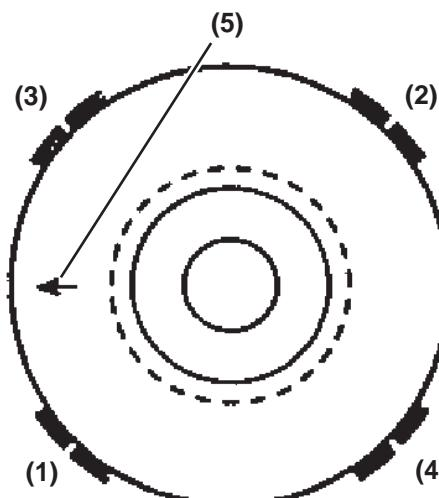

Figure 5-139
9. Install the piston rings with the ring end gaps as shown in **Figure 5-139**.